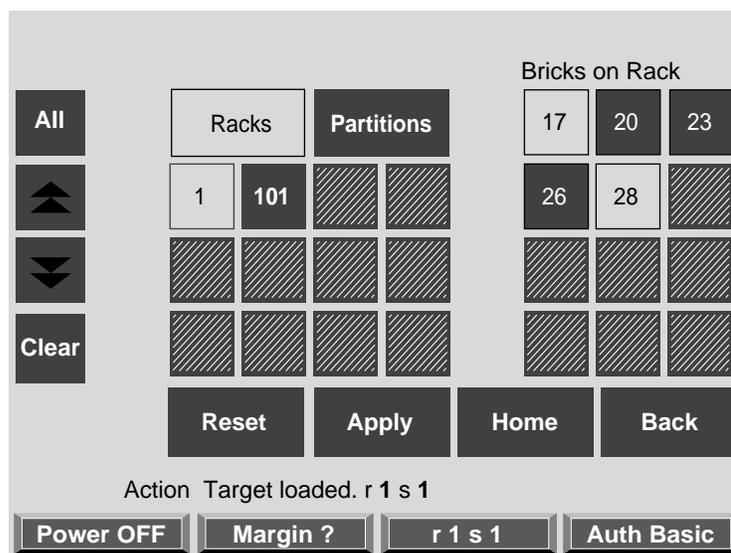

Figure 2-12 Bricks on the Rack Section
3. The bricks are selected by their rack and slot/bay (unit position) number. Select **All** in the upper left hand corner of the display if you want to power on all the bricks in all the racks and slots in the server. If you want to select individual bricks to power on, select the rack from which you want to select bricks from the **Racks** segment of the display. For example, if you select rack 1, a section on the window with all the bricks in rack 1 will appear, as shown in Figure 2-12.